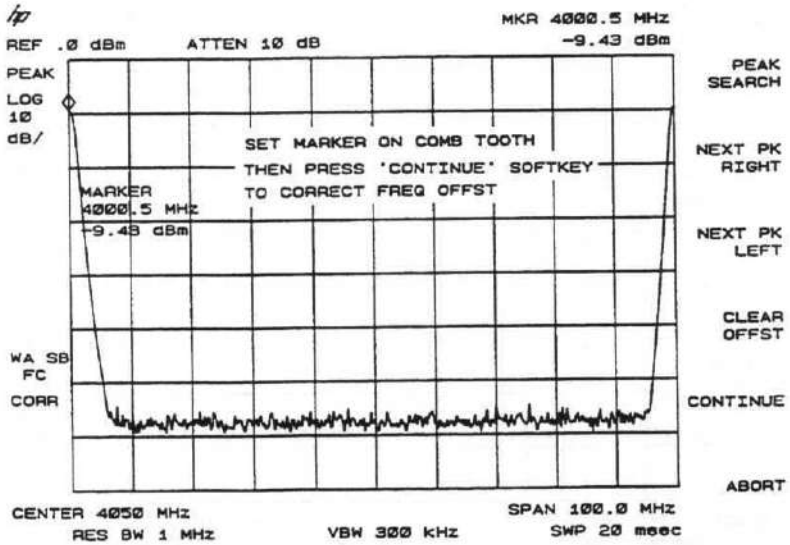

Figure 2-18
3. Press **FREQUENCY** and [COMB GEN ON], and press **MENU 2** and [CORRECT TO COMB]. The marker activates and a comb correction menu is placed in the softkey display. The message "SET MARKER ON COMB TOOTH THEN PRESS 'CONTINUE' SOFTKEY TO CORRECT FREQ OFFST." is displayed. (See Figure 2-18.)